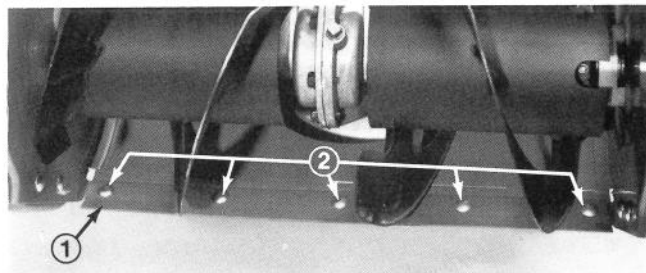
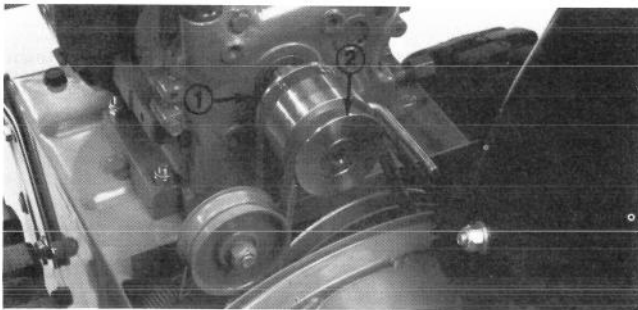

Figure 28
Figure 31
2. Adjust both skids so there is 1/8 of an inch (3 mm) between bottom of auger and level surface. When skids are adjusted correctly, tighten flange nuts. Next, check scraper blade that is mounted at bottom of auger housing (Fig. 28). To adjust
When auger/impeller drive belt (Fig. 31) becomes worn, stretched, oil-soaked, or otherwise defective, belt replacement is required.
3. Remove auger drive belt from engine pulley and large auger/impeller pulley (Fig. 31).
4. Install new belt around large auger/impeller pulley (Fig. 31). Next, loop belt over engine pulley, making sure that belt is on inside of idler pulley and wire belt guide (Fig. 31).
5. Set unit upright and remove traction drive belt from engine pulley and large traction pulley (Fig. 31).
6. Install new belt around large traction pulley (Fig. 31). Next, loop belt over engine pulley, making sure that belt is on inside of traction idler pulley and wire belt guide (Fig. 31). Tip snowthrower onto auger housing, block it and hook spring onto side plate (Fig. 28). Replace rear shield and set unit upright.
7. Replace auger/impeller drive belt: refer to Replacing Auger /Impeller Drive Belt, item 4-5.